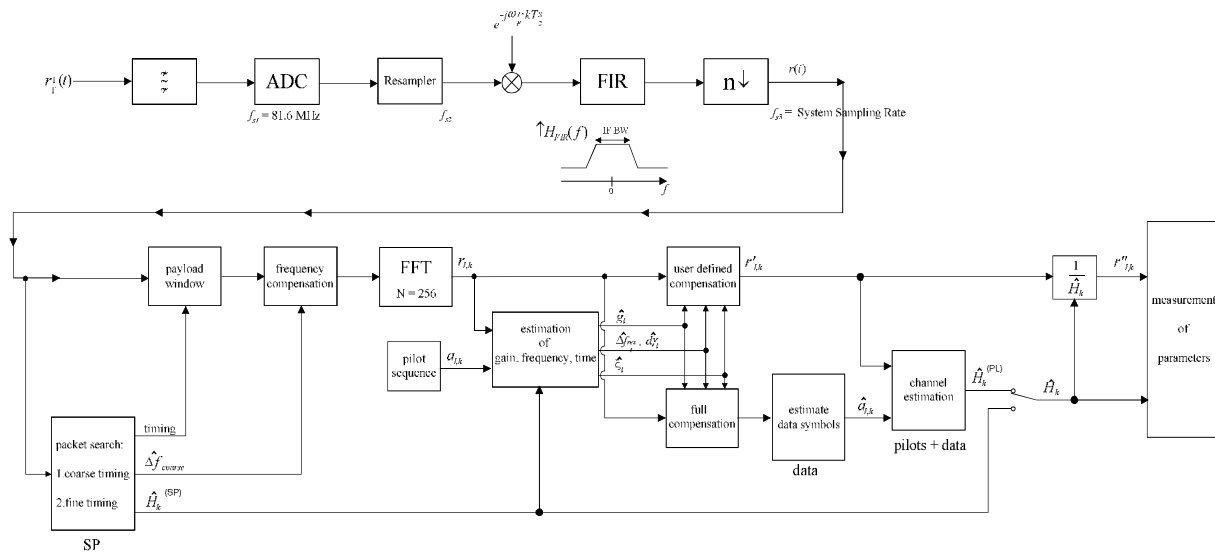

Fig. 88 Signal processing of the IEEE802.16 OFDM measurement application
A diagram of the interesting blocks is shown in Fig. 88. First the RF signal is downconverted to the IF frequency $f_{IF} = 20.4$ MHz. The resulting IF signal $r_{IF}(t)$ is shown on the left-hand side of the figure. After bandpass filtering, the signal is sampled by an Analog to Digital Converter (ADC) at a sampling rate of $f_{s1} = 81.6$ MHz. This digital sequence is resampled to the new sampling frequency of $f_{s2} = 80$ MHz which is a multiple of the Nyquist rate (20 MHz). The subsequent digital downconverter shifts the IF signal to the complex base band. In the next step the base band signal is filtered by a FIR filter. To get an idea, the rough transfer function is plotted in the figure. This filter fulfils two tasks: first it suppresses the IF image frequency, secondly it attenuates the aliasing frequency bands caused by the subsequent downsampling. After filtering, the sequence is sampled down by the factor of 4. Thus the sampling rate of the downsampled sequence $r(i)$ is the Nyquist rate of $f_{s3} = 20$ MHz. Up to this point the digital part is implemented in an ASIC.
In general, the coarse frequency estimate $\hat{\Delta f}_{\text{coarse}}$ (see Fig. 88) is not error-free. Therefore the remaining frequency error Δf_{rest} represents the not yet compensated frequency deviation in $r_{l,k}$. Consequently the overall frequency deviation of the device under test (DUT) is calculated by $\Delta f = \hat{\Delta f}_{\text{coarse}} + \Delta f_{\text{rest}}$. Remark: The only motivation for dividing the common phase drift in equation (2) into two parts is to be able to calculate the overall frequency deviation of the DUT.